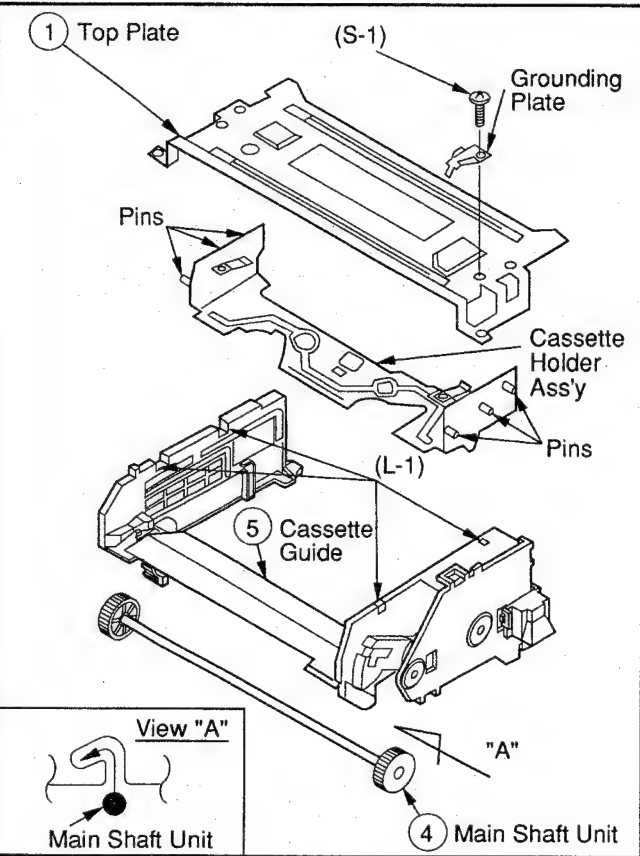

Fig. DA1
2. When installing the Main Shaft Unit, as shown in Fig. DA1, install the Main Shaft Unit in the direction shown by the arrow in view "A".